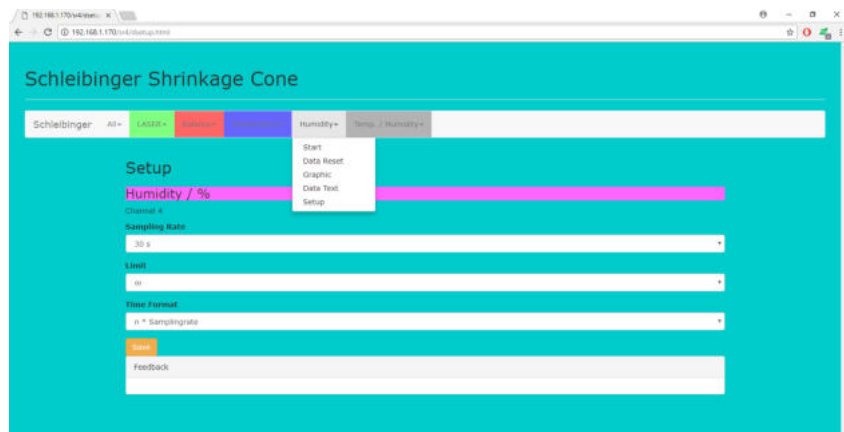

Figure 17: Channel setup
The configuration of the measurement can be done from the **Setup** (Fig. 17). For each channel:
- Recording interval (**Sampling Rate**) can be selected from 10 seconds to 10 minutes (Fig. 17]. The appropriate measurement values are recorded according to the set interval.